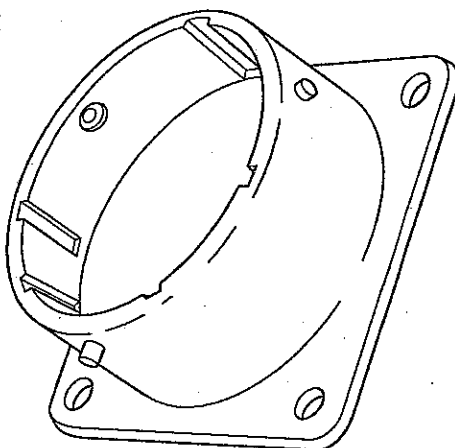

Fig 27. Dummy storage receptacle, general view
18.1 Dummy receptacles (Fig 27) are used as a storage for 466 straight plugs when they are temporarily disconnected from receptacles. They are available in normal and keyway oriented configurations.